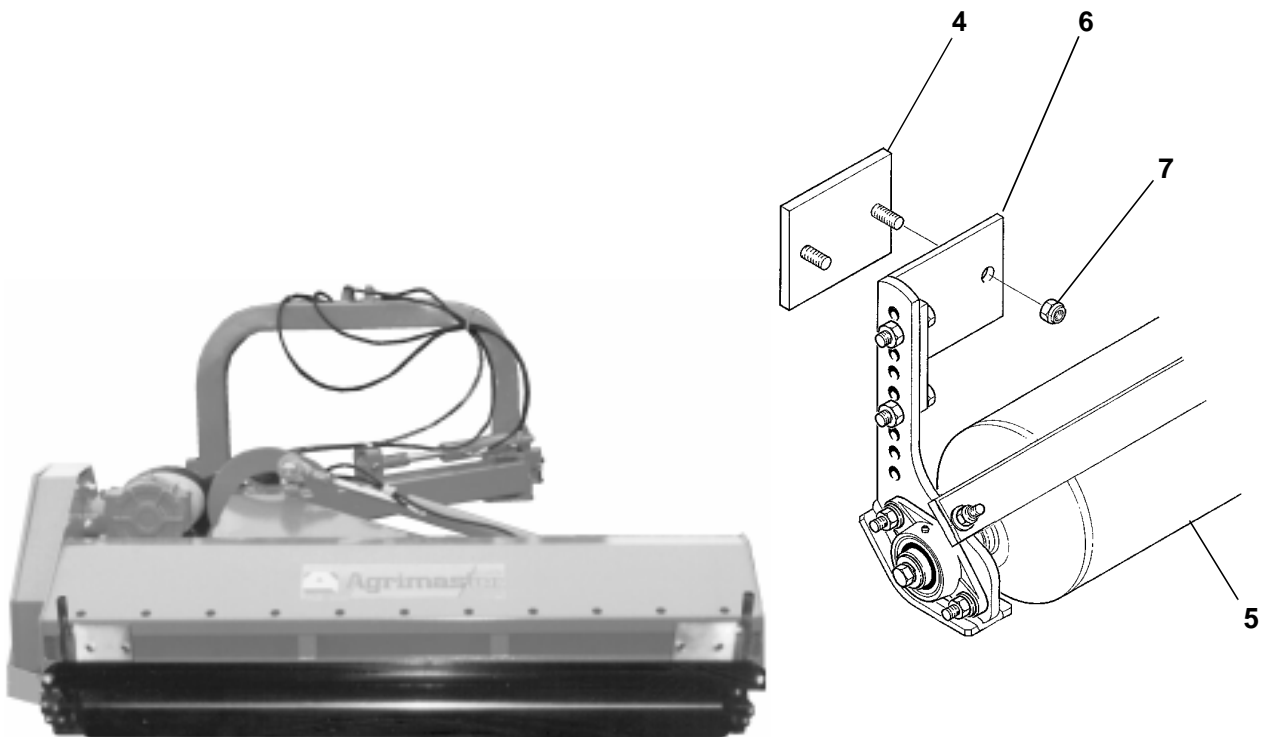

Fig. 9-2 Rullo d'appoggio Ø 194 (FP-FA) - Support roller Ø 194 (FP-FA)
**9.1.2 Montaggio rullo FP e FA (Fig. 9-2)**
**9.1.2 FP and FA roller assembly (Fig. 9-2)**